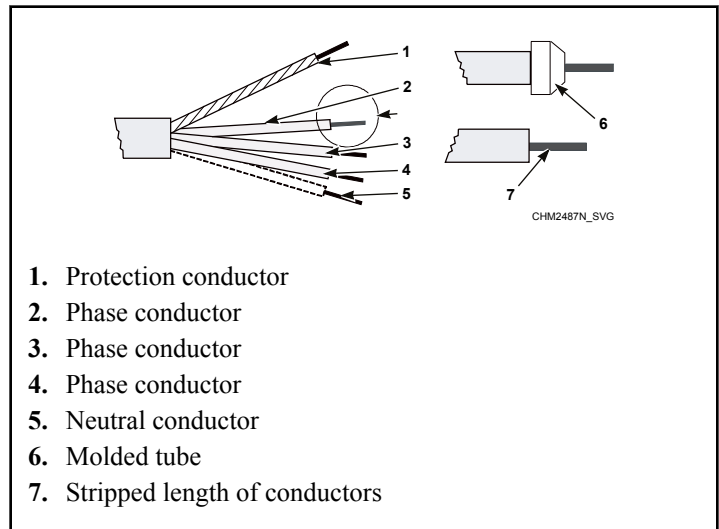

Figure 20
2. Strip the conductor ends. Refer to *Figure 20*. The protection conductor must be longer so it can be routed to the machine without tension.